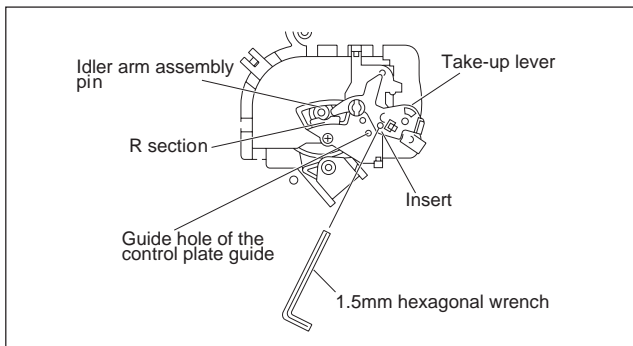
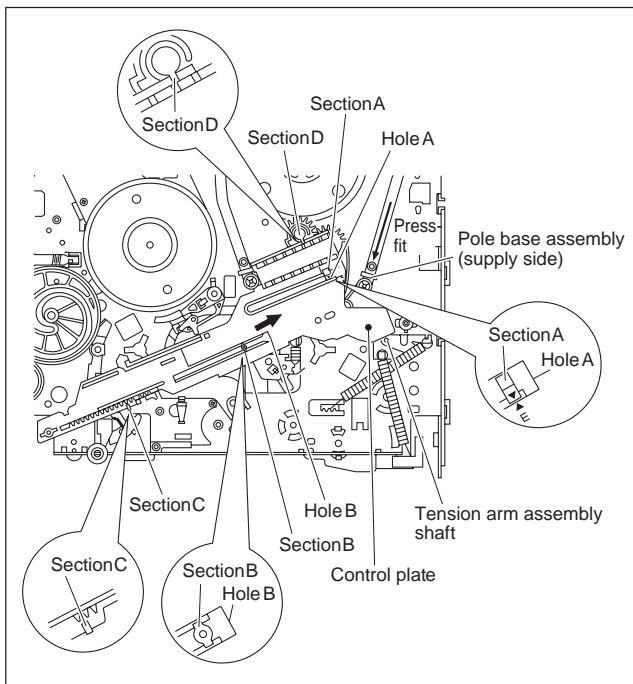

Fig.3-2-15b
Fig.3-2-15c
- (1) Adjust the position of the idler arm assembly pin as indicated in Fig.3-2-15b (to the left of center (centre) of the R section).
- (2) Bring the guide hole of the take-up lever into alignment with the hole at the control plate guide and fix the position by inserting a 1.5 mm hexagonal wrench.
- (3) Install the control plate so that the section A of the loading arm gear shaft fits into the hole (A) of the control plate, the section B of the control plate guide into the hole (B), and the control plate comes under the section C of the rotary encoder guide and the section D of the loading arm gear shaft while press-fit the pole base assembly (supply side) as indicated by the arrow. It is important that the tension arm assembly shaft is positioned closer toward you than the control plate. (See Fig.3-2-15c.)
- (4) Make sure that the mark E of the control plate is in alignment with the mark ▼ of the loading arm gear shaft. (See Fig.3-2-15c.)
- (5) Pull off the hexagonal wrench for positioning.